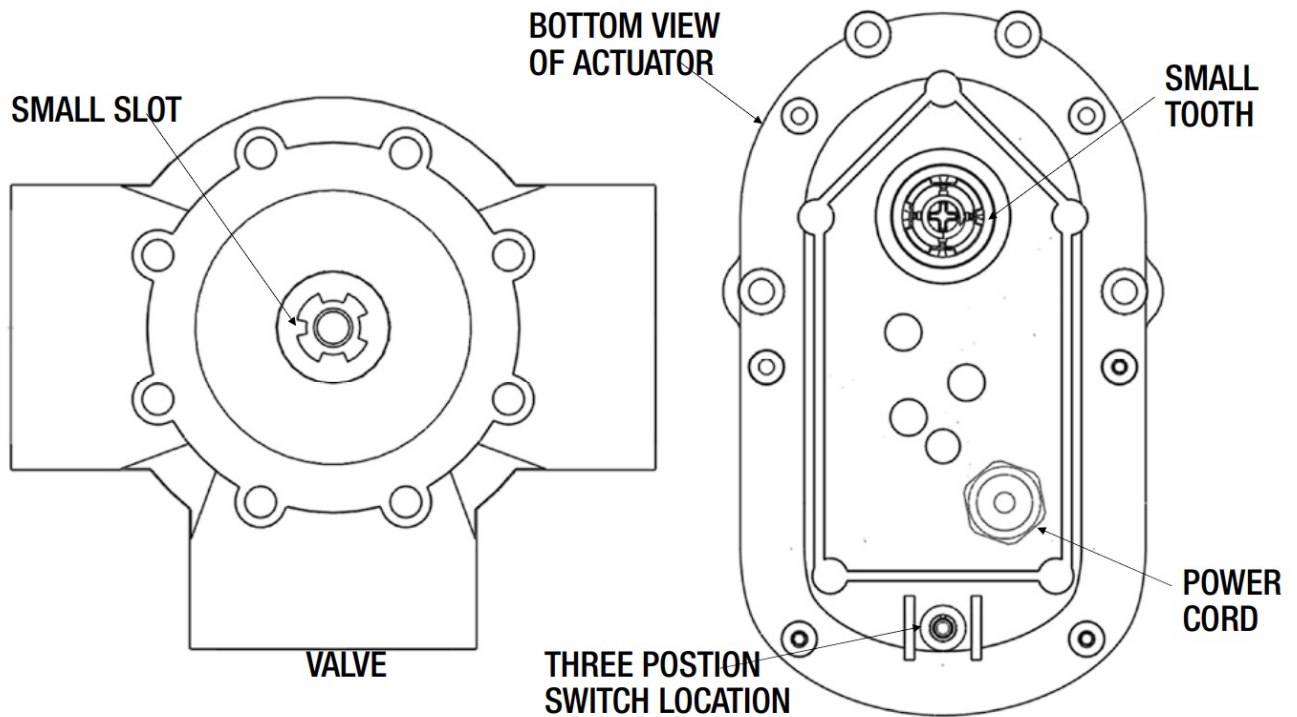

Figure 2.
3. Turn the actuator over and observe the teeth as shown in Figure 2.
4. Place the actuator over the valve shaft so the small tooth engages with the small slot in the valve shaft. See Figure 2.